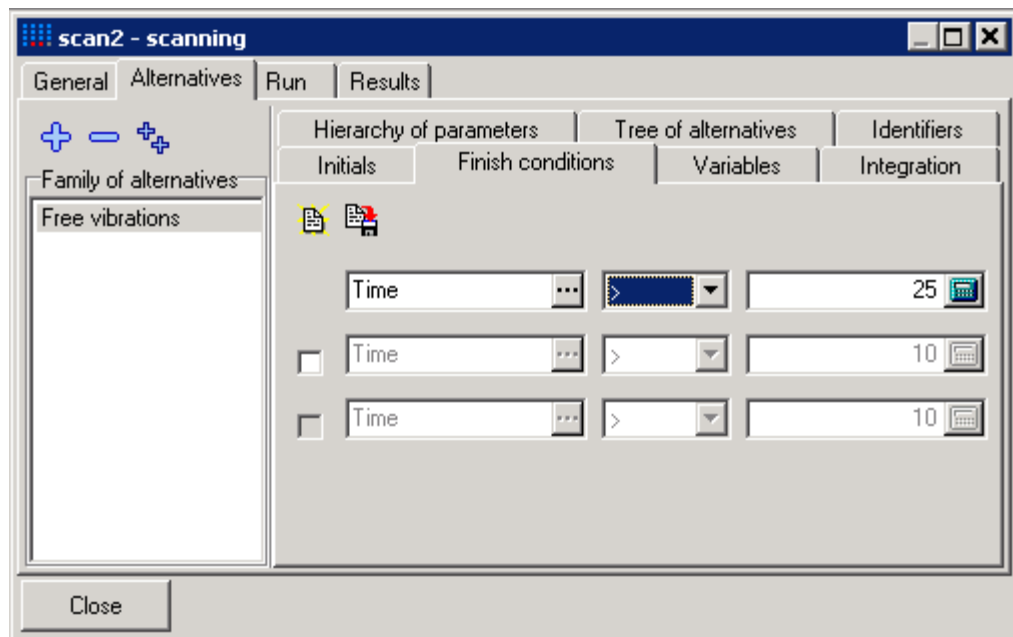

Figure 2.7. Finish conditions
Here you can describe finish conditions for each numerical experiment in the current family (see Fig. 2.7). Finish conditions are formulated in the following way: “Interrupt a numerical experiment if at least one of the conditions is satisfied”. Using scanning project you can set finish condition as
1. Set simulation time to **25** seconds, see Fig. 2.7.